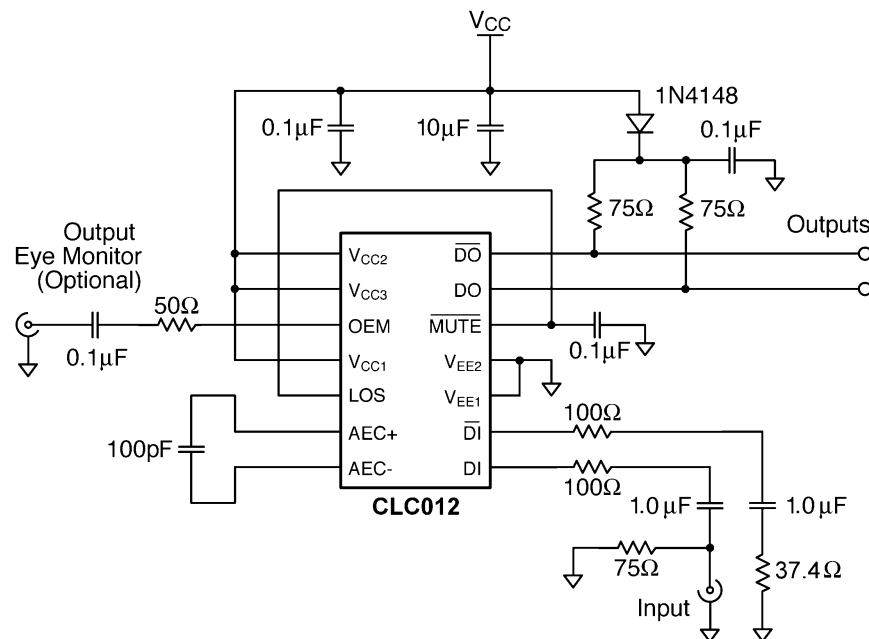

Figure 2. CLC012 Equalizer Application Circuit
**Loss of Signal (LOS)** is a CMOS output that indicates the presence of equalized data from the filter. This LOS output can be connected to  $\overline{\text{MUTE}}$  to suspend changes in the data outputs DO and  $\overline{\text{DO}}$ , if no valid signal exists. This simple configuration prevents random output transitions due to noise. For sparse transition patterns it is recommended that a capacitor be connected to LOS as shown in Figure 2.
The OEM is a high-speed, buffered output for monitoring the equalized eye pattern prior to the output comparator. Its output is designed to drive an AC-coupled 50 $\Omega$  coaxial cable with a series 50 $\Omega$  backmatch resistor. The cable should be terminated with 50 $\Omega$  at the oscilloscope. Figure 2 shows a schematic with a typical connection.
The CLC012 operates from either +5V or -5.2V single supplies. Refer to Figure 2 when operating the part from +5V. When operating with a -5.2V supply, the  $V_{EE}$  pins should be bypassed to ground. The evaluation board and associated literature provide for operation from either supply.